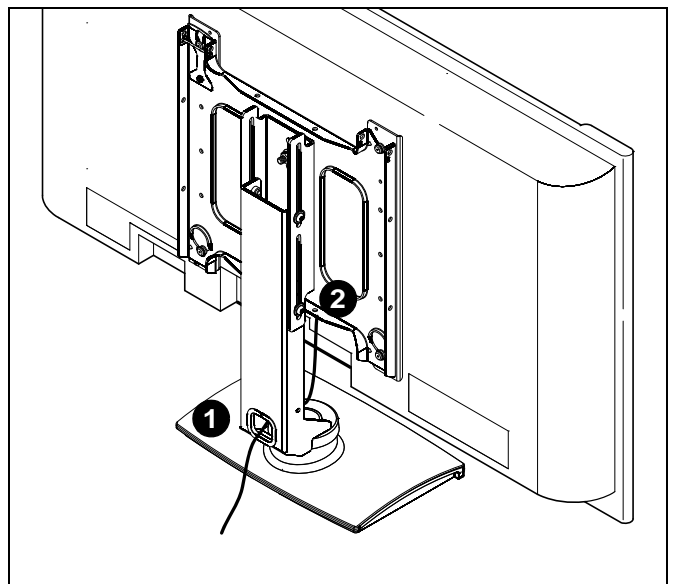

Figure 9
1. Route display cables and wiring through cable management hole in base. (See Figure 9)